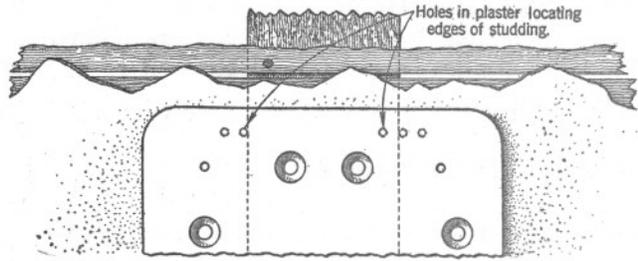

Fig. 4—Locating Studding or Furring
2. Definitely locate edges of stud or furring by drilling small test holes as shown in Fig. 4.